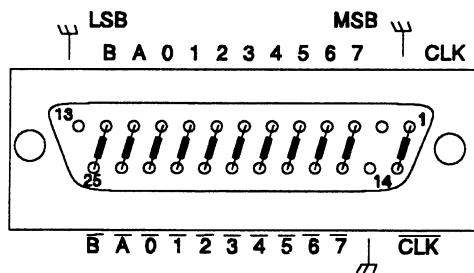

Fig. 4-19. Digital Termination.
- a. Connect the digital output termination fixture (see Fig. 4-19) to the Composite Digital output.